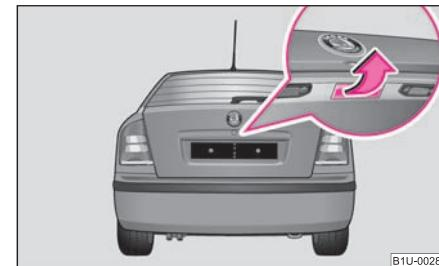

Fig. 34 Handle of boot lid
Unlocking or locking the vehicle causes **all** doors to be unlocked or locked at the same time by the central locking system. The boot lid is unlocked when opening. It can be opened by pressing the hand grip above the licence plate ⇒ page 38, fig. 34.
- Press on the handle ⇒ fig. 34 and at the same time raise the boot lid.